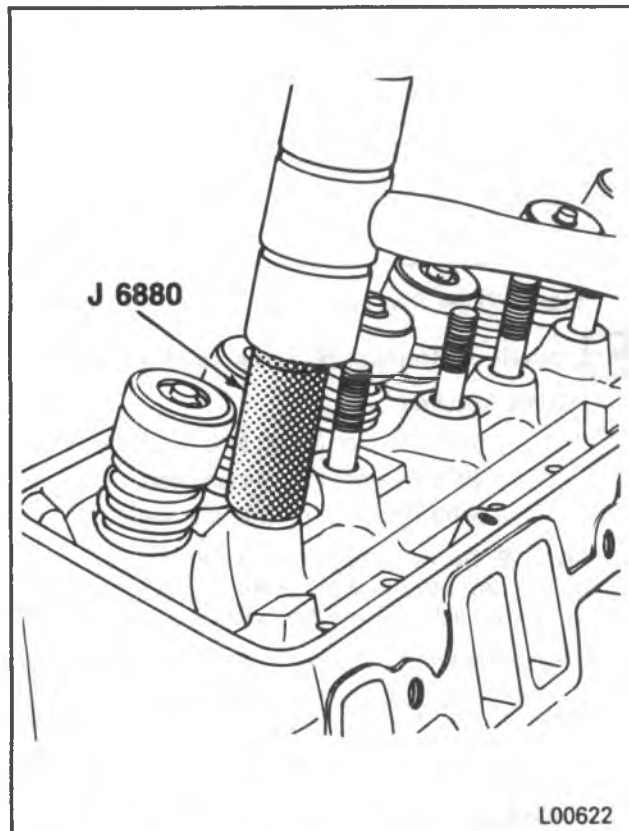

Figure 14 — Installing The Rocker Arm Stud
1. Rocker arm stud using J 6880 (figure 14). Stud is installed to proper depth when J 6880 bottoms on the cylinder head.